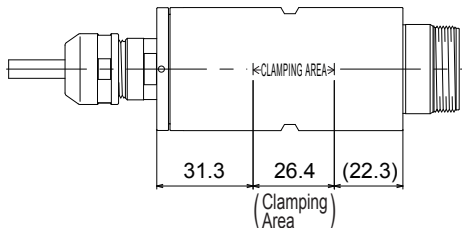

Fig. 8
① When mounting a spindle, refer to the Clamping Area etched on the spindle (Fig. 8).